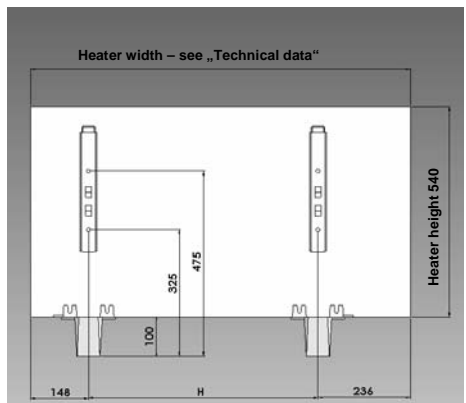

Fig.7 Tilting prevention bracket / Heater with floor-mounting brackets
- When fixing the heater to floor-mounting brackets, these are first to be fixed flush against the wall, either to the floor or the wall with a clearance of „H“ and a tolerance of max.  $\pm 10\text{mm}$  (Fig. 7, table 3) using suitable materials (mounting holes in the floor brackets are of 8.5mm diameter). The clearances to be adhered to are found in the chapter „minimum clearances“.
Fix the shortened wall-mounting brackets to the wall (using 2 screws per bracket) mid-way above the floor brackets (Fig.7) using the materials supplied or other, more suitable materials (mounting holes in the brackets are of 10mm diameter). The clearances to be adhered to are found in the chapter „minimum clearances“.